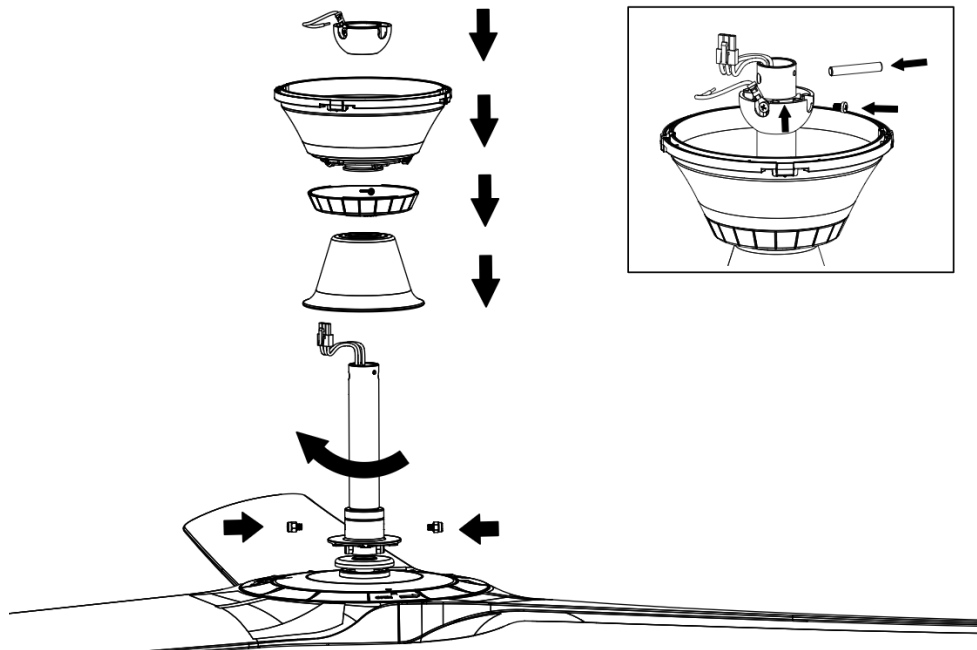

Fig. 10.3
3. Install the down rod joint cover, canopy bottom cover, canopy & ball joint back to the fan assembly. Ensure all the screws are tightened and secure. (Fig. 10.3)